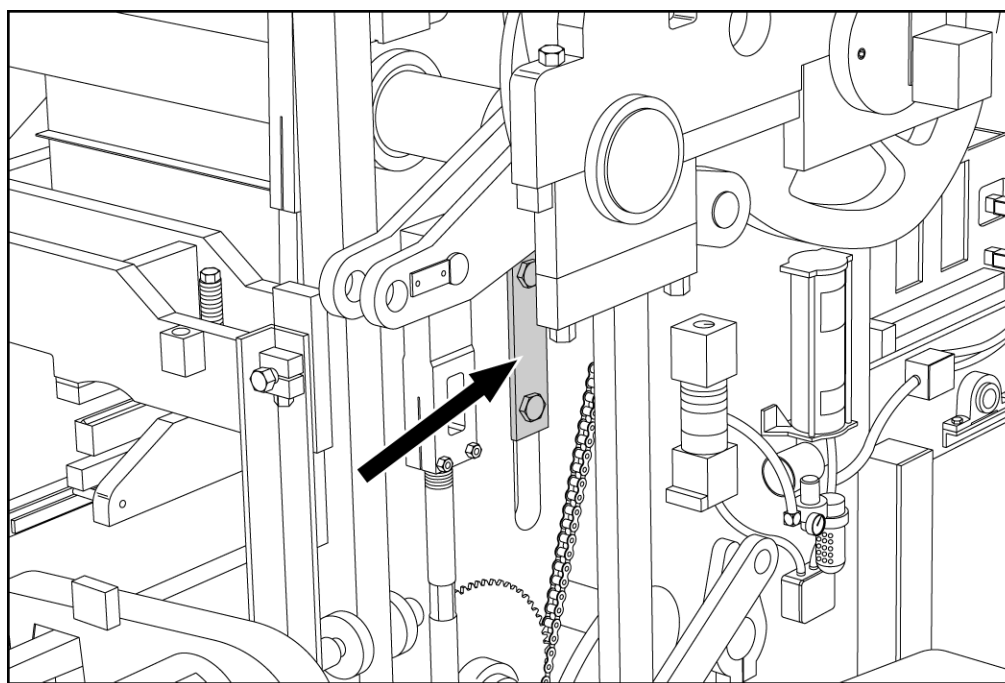

Figure 4.49 LOOSEN "T" CLAMPS ON BOTH SIDES
- a. Loosen the "T" clamps on each side of machine that secure machine side plate to mold throat plate. (figure 4.49).